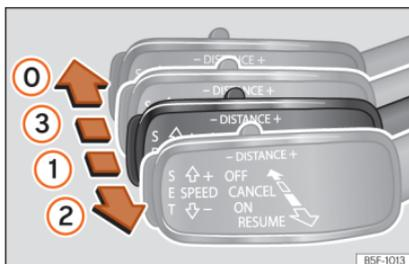
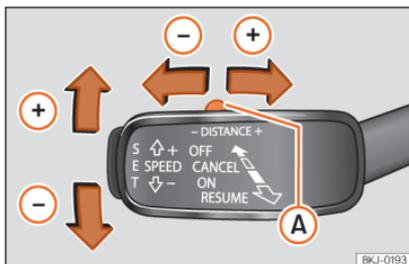

Fig. 272 On the left of the steering column: third lever for operating the Adaptive Cruise Control.
Fig. 273 On the left of the steering column: third lever for operating the Adaptive Cruise Control.
Once you are driving, if you wish to set the current speed as the vehicle's cruise speed and activate the ACC, press the **SET** »» Fig. 273 button. If you wish to increase or reduce speed by intervals of 1 km/h (0.6 mph), move the lever to position ② »» Fig. 272 or press the **SET** button, respectively.
To increase/reduce the distance level, press the rocker switch towards the left/right »» Fig. 273 (A).
- To activate the ACC, with the third lever in position ① press the **SET** button or move the third lever of the ACC to position ② »» Fig. 272. At this point, the image of the
To disconnect the ACC move the lever to the ① position »» Fig. 272 (engaged). An ACC deactivated message appears and the function is totally deactivated.
If you do not wish to disconnect the ACC, just to switch it temporarily to inactive mode (Standby), move the third lever to position ③ »» Fig. 272 or press the brake pedal.